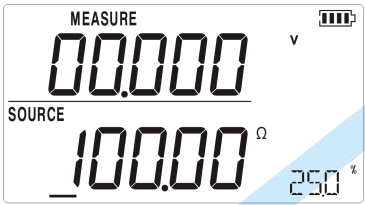
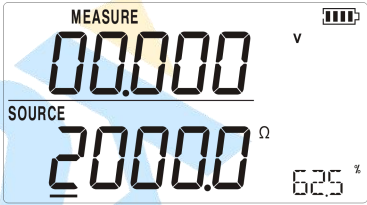

Figure 4.5-3
Figure 4.5-4
Press  to select **SOURCE** mode. If necessary, press  to select resistance function with the unit of  $\Omega$ . The connecting type is the same as DC V measurement. Press  to switch resistance output range.(Resistance source includes 400  $\Omega$  range and 3200  $\Omega$  range, as shown in Figure 4.5-3 and Figure 4.5-4 )
*Attention: The Figure 4.5-3 is 400  $\Omega$  range and the Figure 4.5-4 is 3200  $\Omega$  range.*